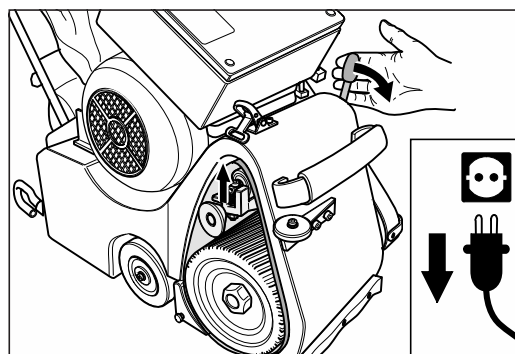

Fig. 15 To tension the sanding belt press the operating lever of the drive unit downwards. **Similar to figure.**
- 11 To tension the sanding belt press the operating lever of the drive unit downwards (fig. 15).
- **Always tension the sanding belt before switch on the machine (fig. 15)!**